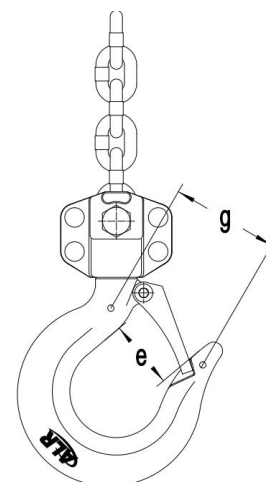

Figure 2
- The top and bottom hooks on your ALR chain hoist are designed to open to warn of an overload. Both top and bottom hooks for 0.5 to 10 ton hoists have two indicator points (A, Figure 2) cast into the hook for measurement. Refer to Table 2 (page 18) to determine if a hook needs to be replaced.
Hooks for 20-ton hoists do not have indicator points. Measurements are made at the jaw opening (B, Figure 2).